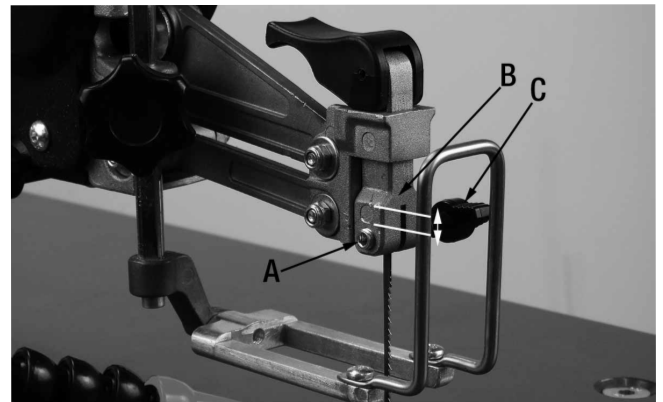

FIGURE 12
- 4) To install a new blade, ensure the teeth are facing forward and down. Slide the top of the blade into the upper blade mount, ensuring that the top of the blade is higher than the set screw (A) Fig.12, but lower than the top of the shoulder of the blade mount (B).
NOTE: The blade could be damaged if the set screw (A) Fig.12 is threaded beyond the blade slot. Make sure the set screw is protruding slightly into the blade slot when tightening the blade using the lock knob (C).